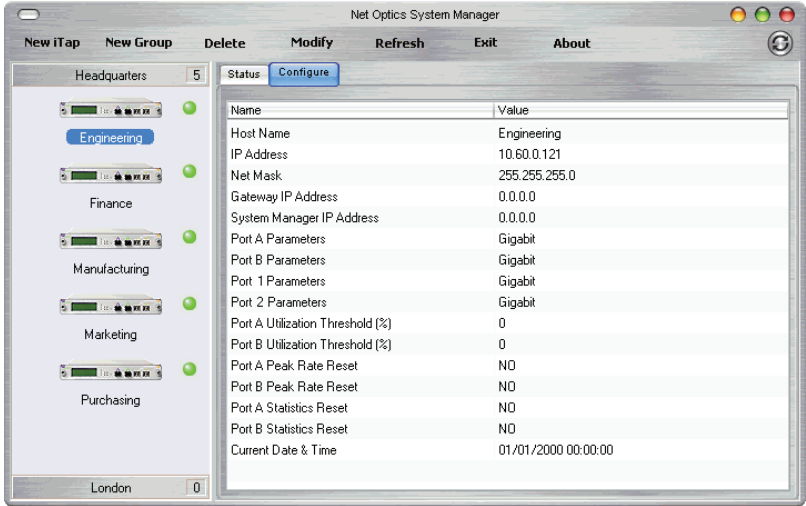

Figure 33: iTap Configure Tab
1. Click on the icon of the iTap you want to configure and click the **Configure** tab as shown in Figure 33.